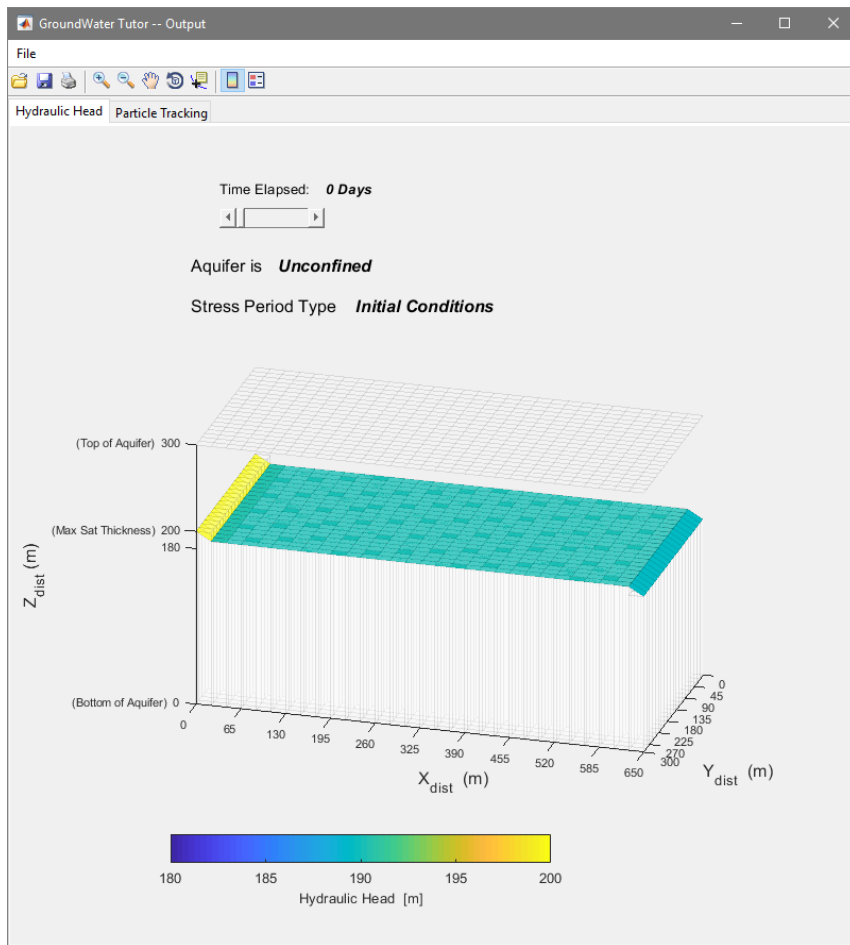

Figure 7. Hydraulic Heads tab of the GroundWaterTutor Output Window.
- **Hydraulic Head** - See **Figure 7**. Plots the hydraulic head distribution to be viewed through time.